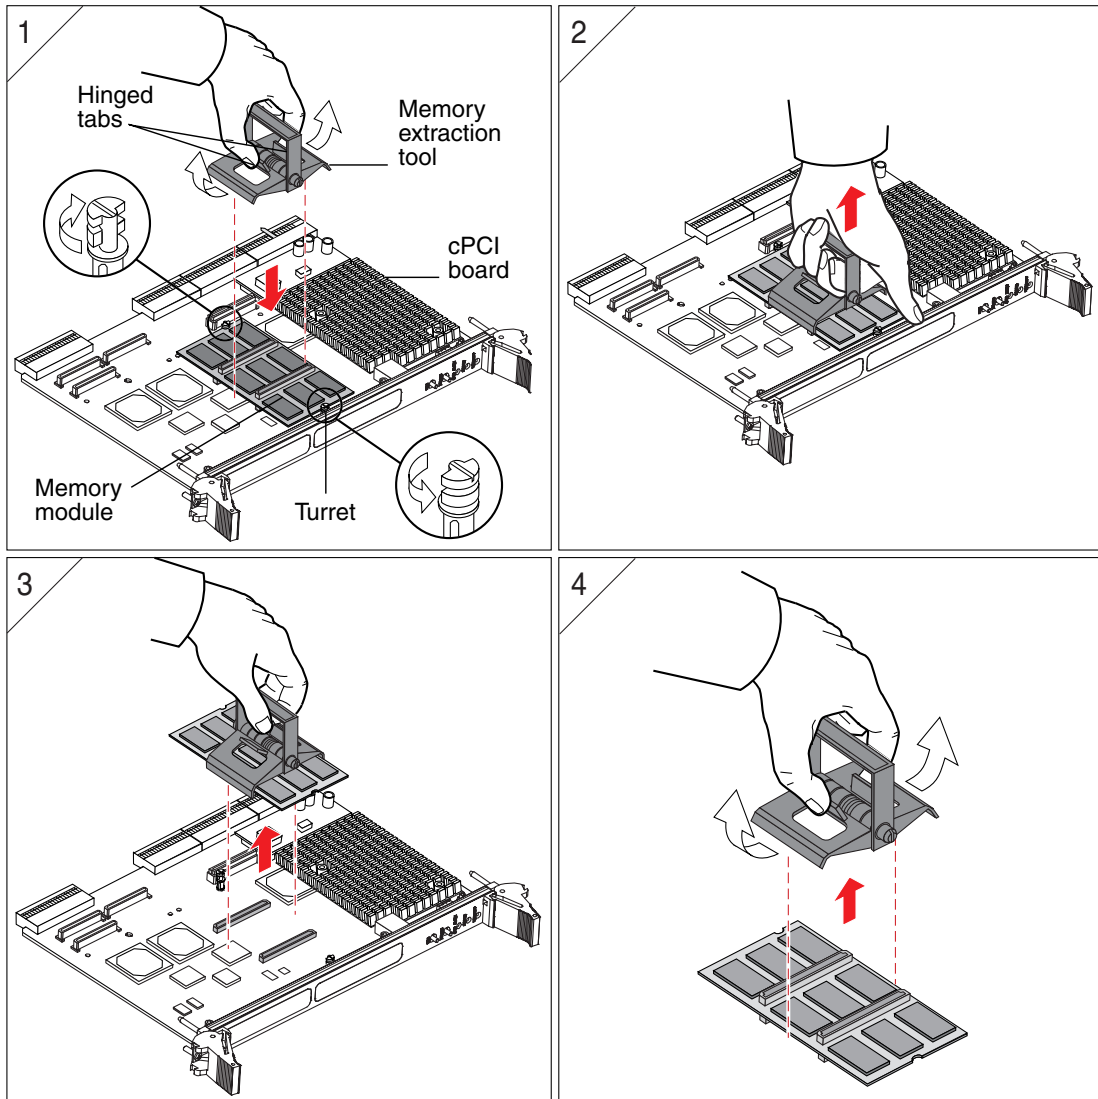

FIGURE 3 Single-wide Memory Module Extraction Procedure on a Typical CP2000/CP2100 Board
Refer to FIGURE 3 and the following instructions to remove the memory module.
1. Pinch the hinged tabs of the memory extraction tool to open its jaws, position it over the memory module, and let go of the tabs so the tool grasps the module firmly (see FIGURE 3 Segment 1). Rotate turrets into the position shown in FIGURE 3 Segment 1.
2. Pull at the extraction tool handle while leveraging with your fingers on the faceplate to loosen, and pull out the module from the connectors on the Netra CP2000/CP2100 board (see FIGURE 3 Segment 2 and Segment 3). With your other hand, hold down the motherboard.
3. Remove the module from the jaws of the memory extraction tool by pinching the hinged tabs to open the extraction tool jaws (see FIGURE 3 Segment 4).